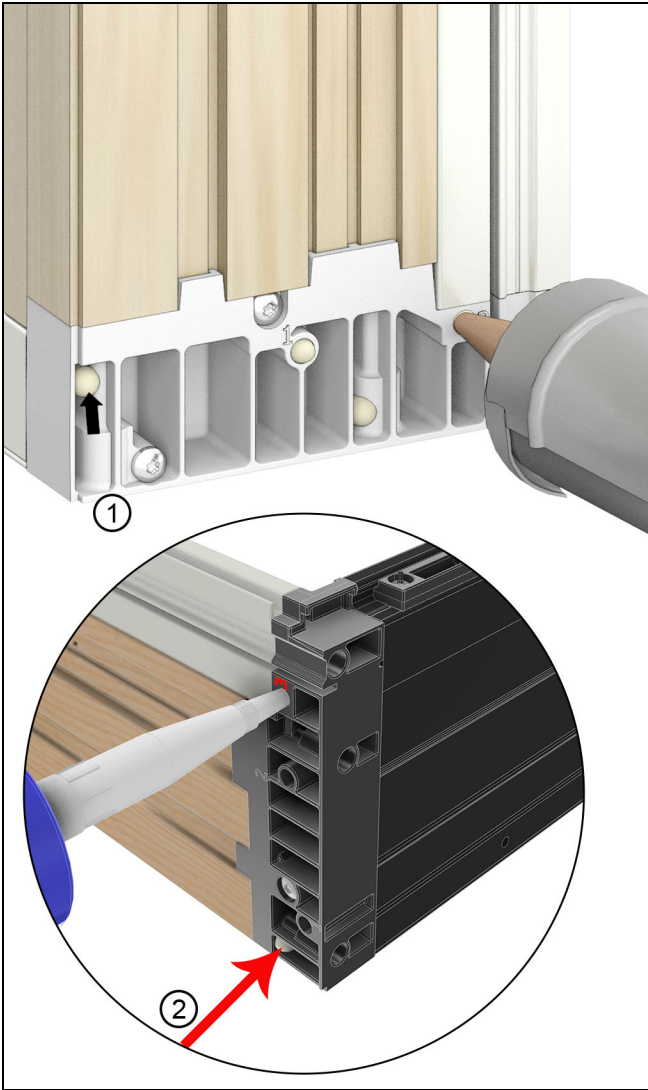

Figure 10
1. Locate the injection hole on the side of the sill key labeled “2”. Inject into the key until you see squeeze out in the inspection hole shown below. See Figure 10.